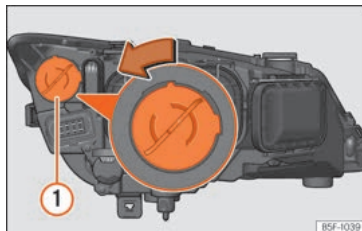

Fig. 108 Day light bulb.
- Turn the bulb holder » **Fig. 108 ①** anti-clockwise and pull.